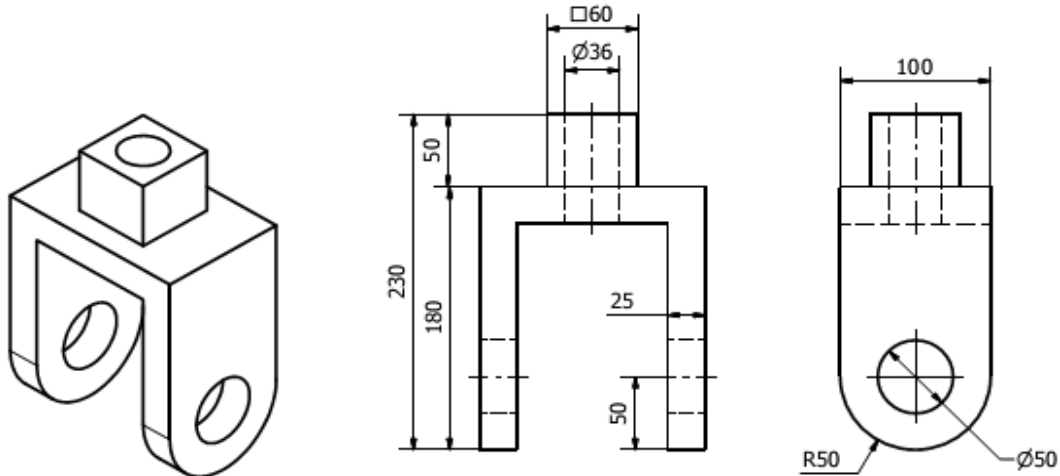

Fig Q 1.8
- h) The component shown in Fig Q 1.8 is an aluminum machine part to be produced through sand casting. Using neat sketches, design; a split pattern locating parting line, a gating system, risers and show location of cores for producing internal features (11 marks)